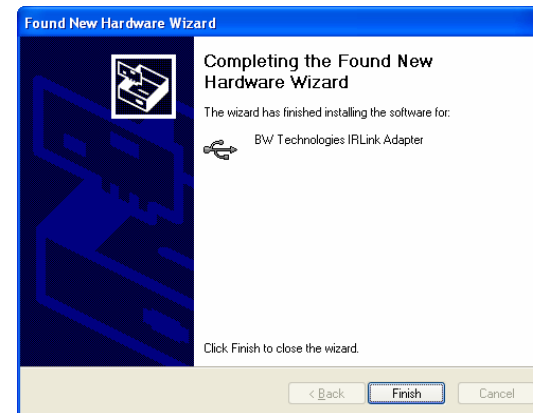

Figure 10. Completing the Found New Hardware Window
6. Connect the IR Link to the USB cable. If required, refer to Figure 10 and Connecting the IR Link to the Detector.